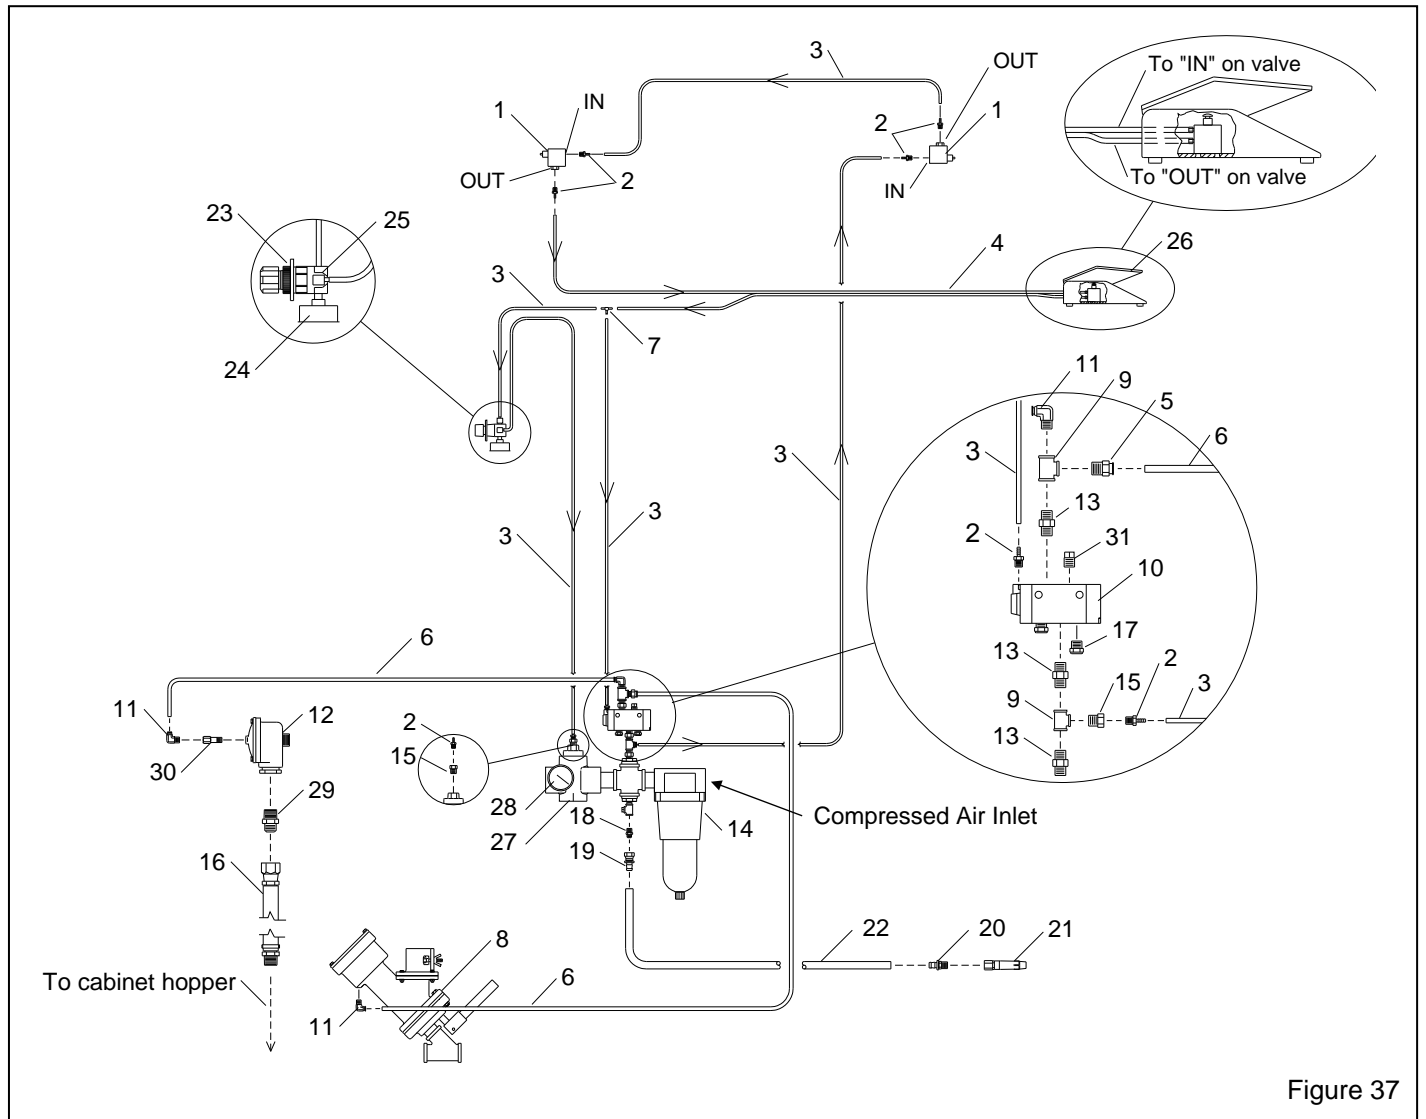

Figure 37
9.8 Plumbing and Air Schematic, Figure 37